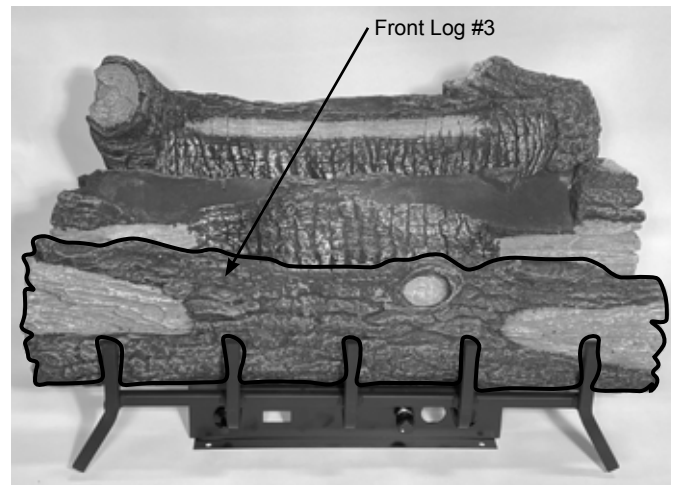

Figure 6.12 - Place Front Log
3. Place Front Log (#3) in between burner and grate. Figure 6.12